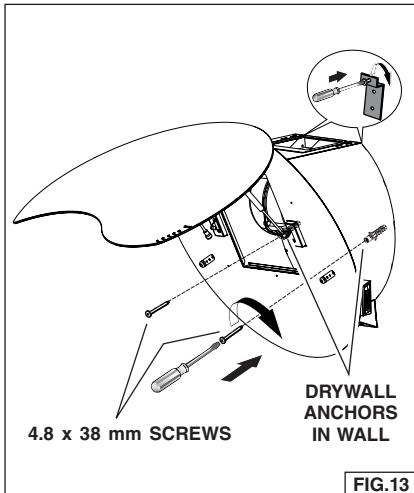

FIG.13
7. Mark and install (2) additional drywall anchors as shown. Fig. 13.
8. Secure range hood to the wall with (2) 4.8 x 38 mm mounting screws.